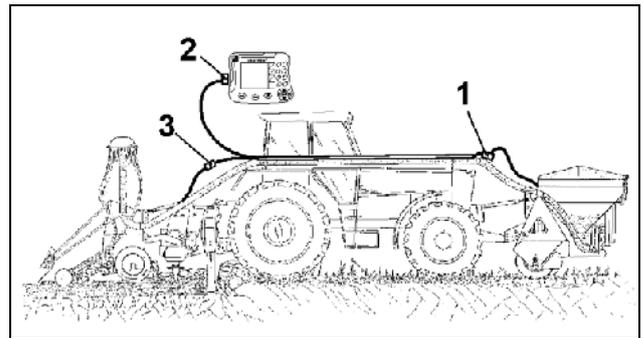
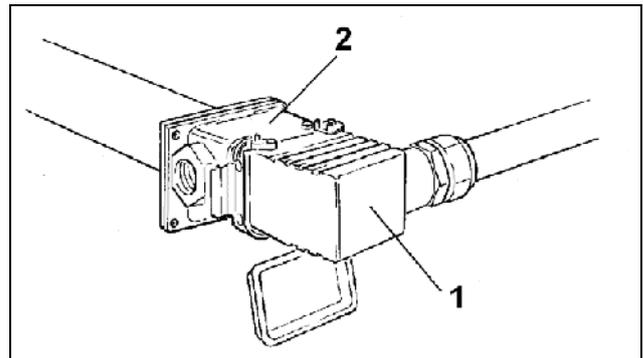
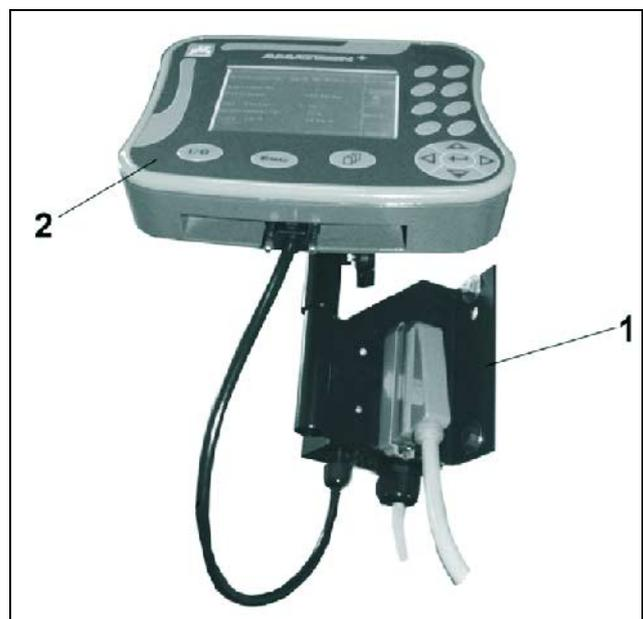

Fig. 45
Fig. 46
Fig. 47
Install and affix to the tractor both the seed guide tubes and the set of cables (Fig. 45).
- Connect combi-plug (Fig. 45/1, Fig. 46) of the front tank with the cable harness
- Connect the plug of the seed drill with the cable harness (Fig. 45/3).
- Connect the cable harness with the aid of the implement plug with the tractor basic equipment for **AMATRON 3** (Fig. 45/3, Fig. 47).
Connect the combi-plug (Fig. 46/1) on the seed hopper with the set of cables (Fig. 46/2) on the tractor.